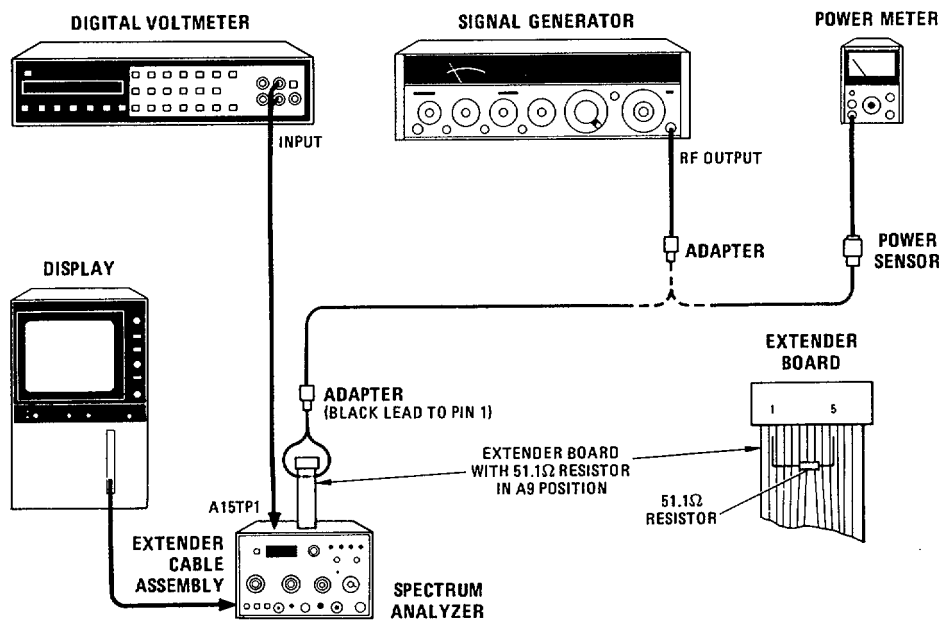

Figure 5-10. Step Gain Assembly RF Gain Adjustment Test Setup
2. Connect equipment as shown in Figure 5-10.